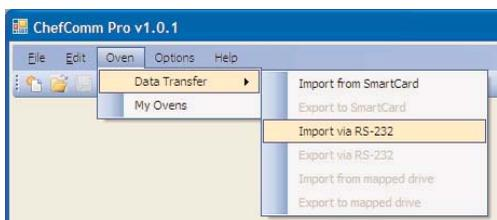

Figure 34: Import Menu via RS-232
3. In the main ChefComm window, select **Oven > Data Transfer > Import via RS-232** (Figure 34).